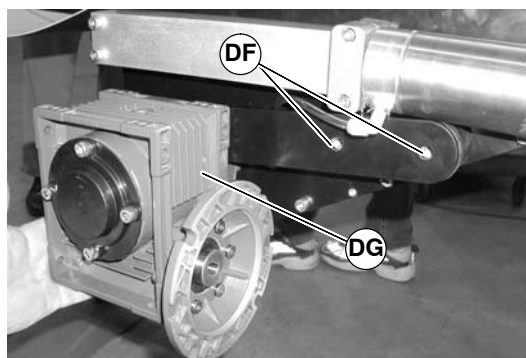
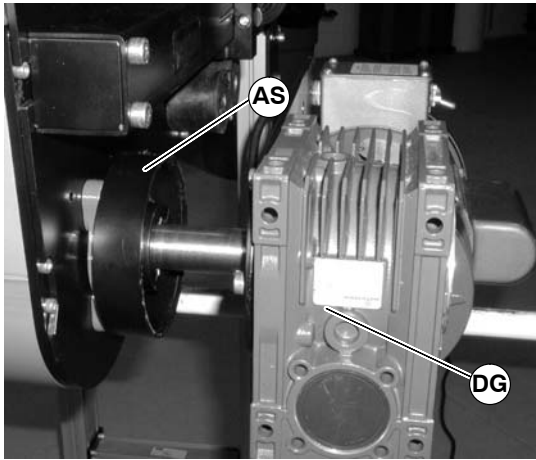

Figure 104
Figure 108
2. Remove screws (DF of Figure 104) and remove gearmotor (DG) (NOTE: Gearhead shown with motor removed for clarity, motor can remain attached to gearhead).
9. Reinstall spacer ring (AS of Figure 108) and gearmotor (DG). Tighten screws (DF of Figure 104) to 150 in-lbs (17 N-m).